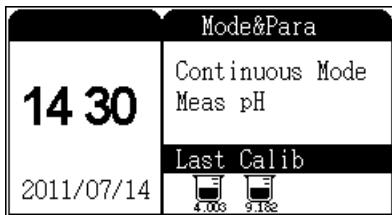

Figure 10 The initial state
- 2 After the self-check is completed, the display shows the initial state. The display shows the measuring mode, pH parameter, and last calibration data. See Figure 10.